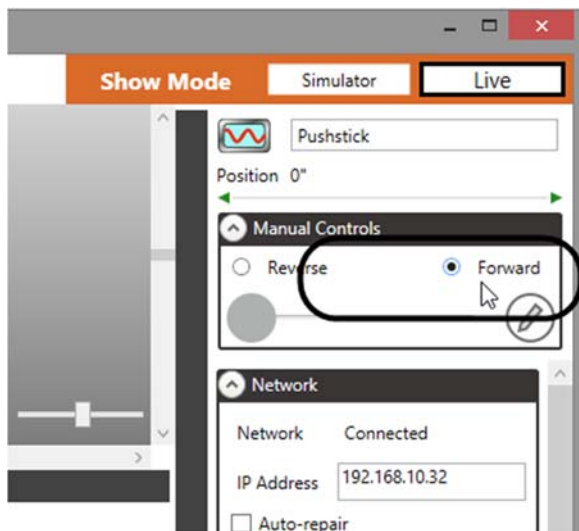

Figure 83
3. Select the **Forward** direction (Figure 83)